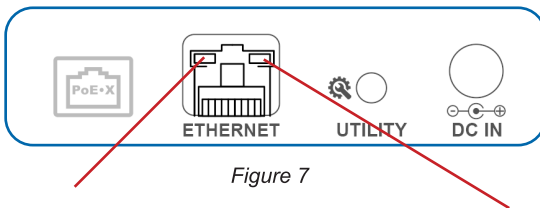
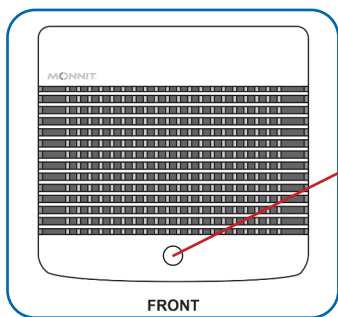

Figure 7
Figure 8
**Operational stage:** In the operational stage, the Ethernet lights will remain active while the Sensor Status light remains off — unless there is an issue. See Figure 7 & Figure 8.